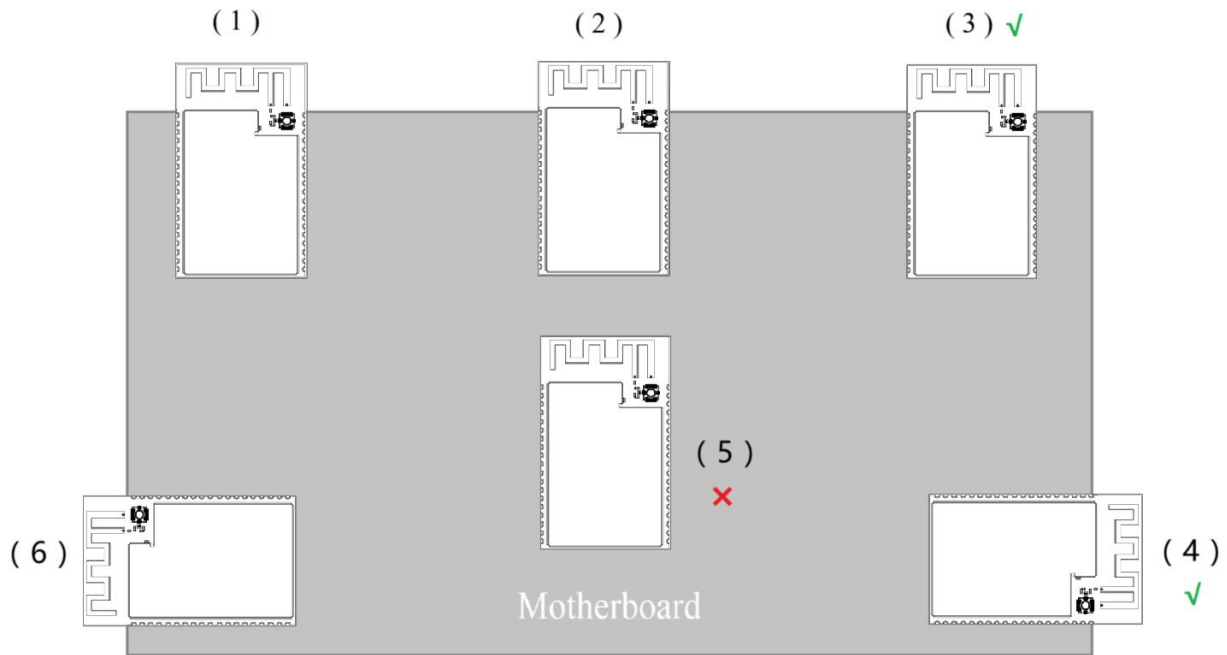

Figure 3.1 Schematic diagram of the position of the WB81-GP module on the bottom plate
When designing the upper board of the module, attention must be paid to the layout of the module on the bottom board, and the influence of the bottom board on the performance of the module PCB antenna should be minimized as much as possible. It is strongly recommended to place the module as close to the edge of the bottom board as possible. If conditions permit, the PCB antenna area should preferably extend out of the bottom board frame, and make the antenna feed point the closest to the half side. If there is a bottom plate under the antenna area, be sure to cut it off to minimize the impact of the bottom plate; ensure that interfering signals (such as USB, LCD, camera, power inductors, crystals, etc.) traces and vias are at least 10 mm away; If there are components with metal shells and high device heights near the module antenna area, a distance of more than 10 mm should be kept from the antenna area; when it comes to the design of the whole machine, the equipment shell (especially the material around the antenna) should be made of non-metallic materials Made, and keep at least 3 mm distance between the antenna and the housing, and please pay attention to the influence of the housing on the antenna. In Figure 3.1, positions (3) and (4) of the WB81-GP module on the backplane are strongly recommended, positions (1), (2), (5) and (6) are not recommended, especially position (5), the bottom plate will greatly attenuate the radiation capability of the antenna if the area of the module antenna is not cleared.